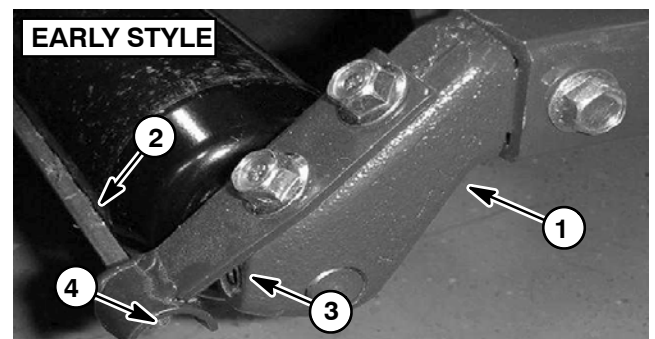

Figure 14
- A. If equipped with early style roller scraper (Fig. 14), loosen one locknut that secures roller scraper rod to mounting bracket.
- B. Remove fasteners securing left and right scraper rod brackets to roller mounts (Figs. 14 and 15).
3. Remove four (4) mounting screws securing roller mounts to rear of deck frame. Remove roller mounts and rear roller assembly from deck frame.